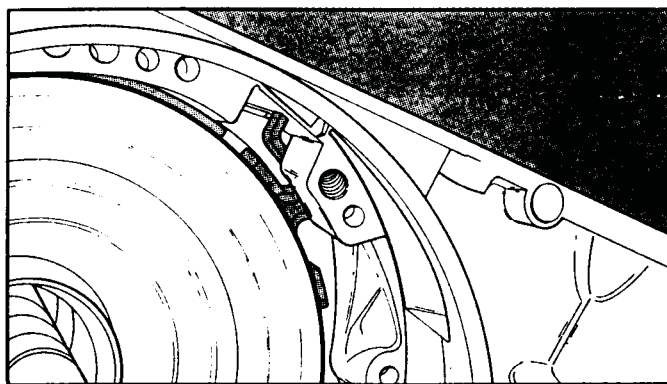

Figure 163
2. Line up the anchor pin hole in the band with the hole in the case, and the clip end of the band as shown in Figure 163.